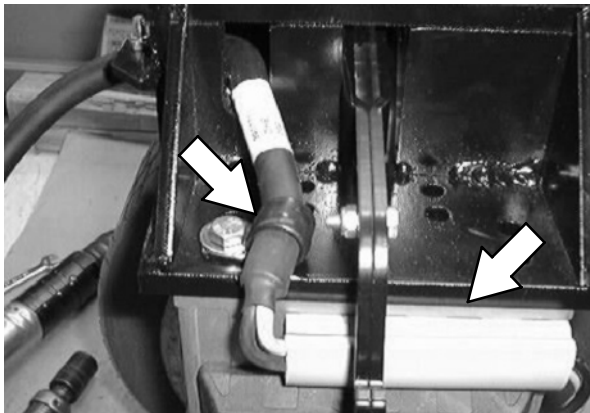

FIG. 18
29. Pull the cable through the duct sleeve and reinstall the cable clamp on the machine. Refer to Fig. 18.